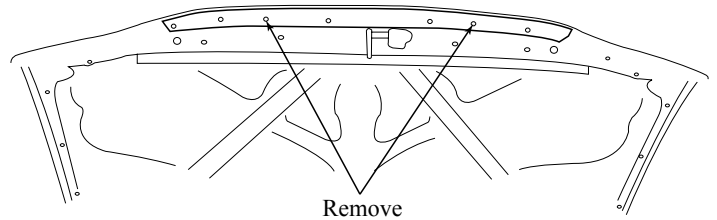

Fig. B-1
1. Remove the two (2) weather strip fasteners shown in Fig. B-1, and discard fasteners.